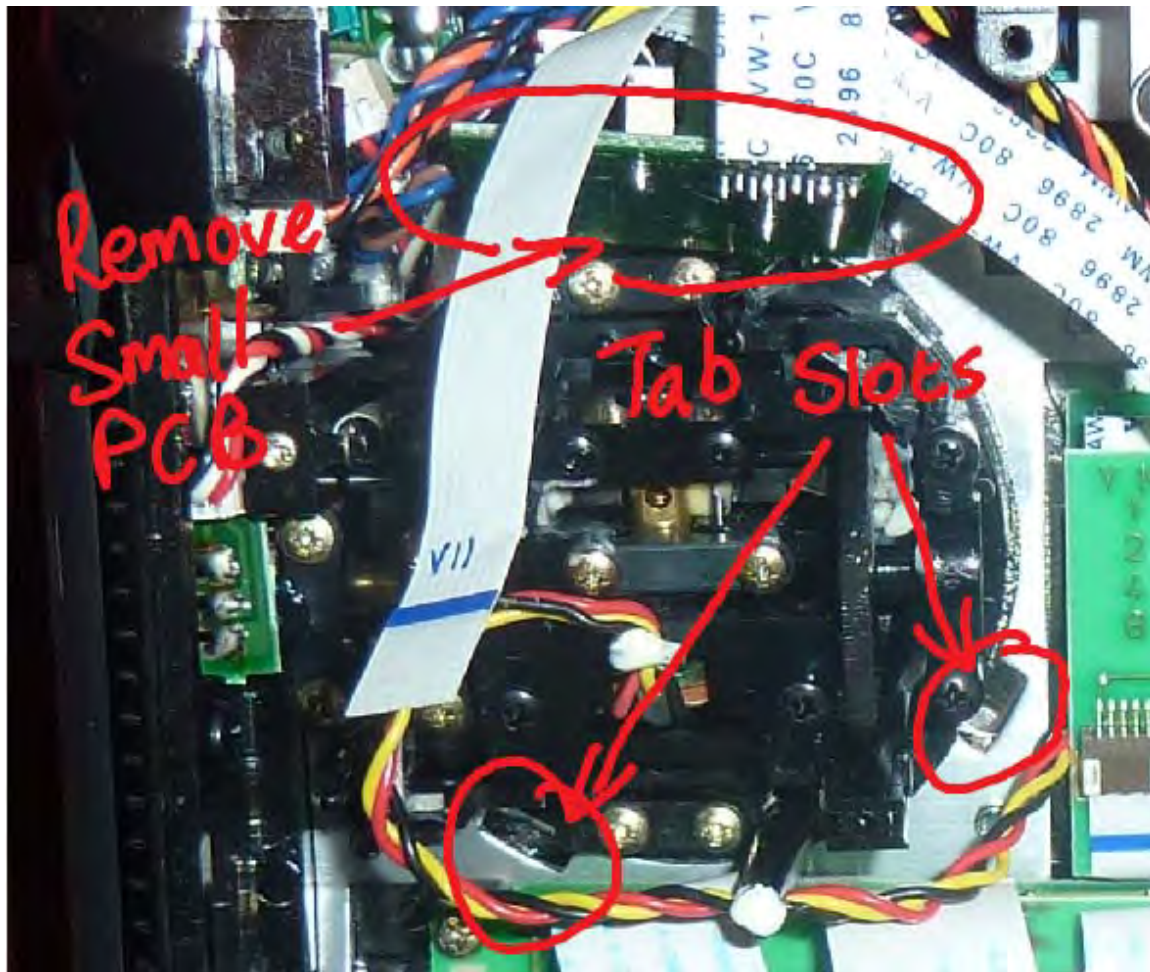

Figure 10 Removal of Joystick Assembly - Small PCB and "Hidden" Tab Slots
3. Turn the 9Z over and working from the back slide out the small PCB located above the rear of the joystick assembly (see Figure 10) from its slot to gain the necessary clearance to twist out the joystick assembly.
5. Rotate the whole joystick assembly (see Figure 35 on page 45) until the "hidden" tabs on the joystick assembly align with the slots in the 9Z metal subframe (see Figure 10) allowing the whole joystick assembly to be pulled backwards out of the 9Z case and removed.